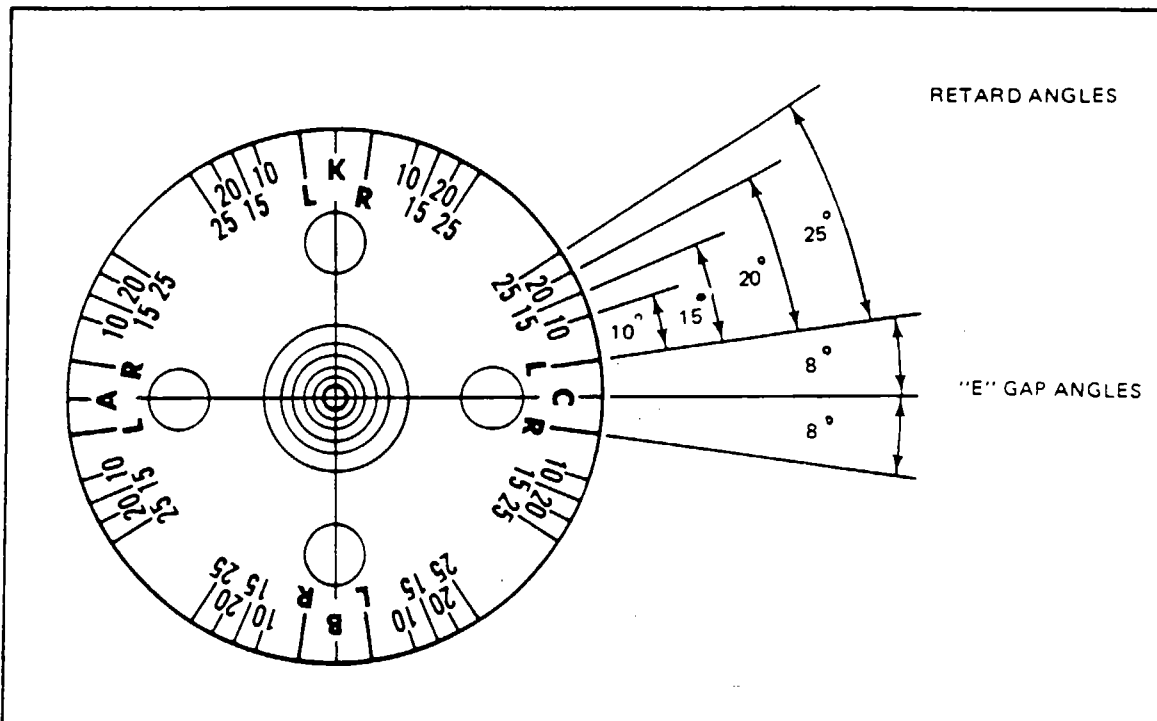

Figure 7A-30. Timing Marks on Magneto Rotor
f. Remove the plug from the distributor inspection windows at either end of the magneto housing. (Refer to Figure 7A-31.) Also remove the plug from the "E" gap inspection window on the data plate side of the magneto housing. (Refer to Figure 7A-32.)